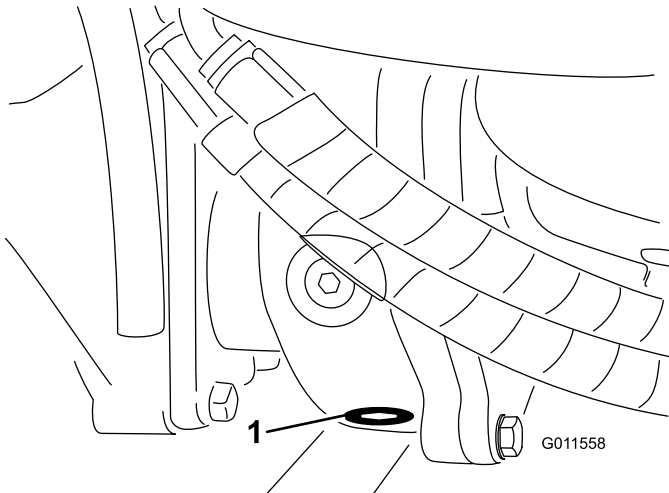

Figure 64
5. Clean the area around the drain plug on the bottom of the gear box (Figure 64).